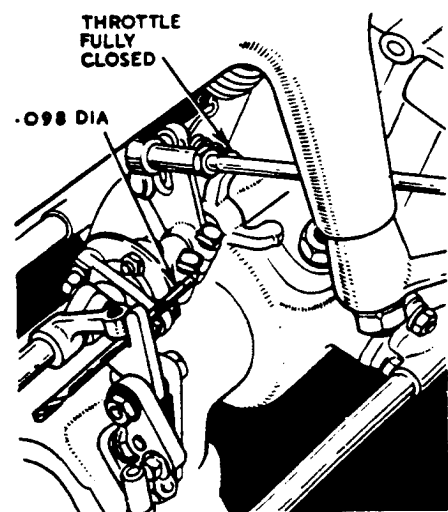

FIG.2.
- (b) With the front carburetter throttle fully closed, tighten the front coupling pinch bolt to give $.098$ " (2.5 m/m) clearance between the fast idle lever and the cam (Fig.2.). The adjusting screw hole in the lever should be central with the cam face.